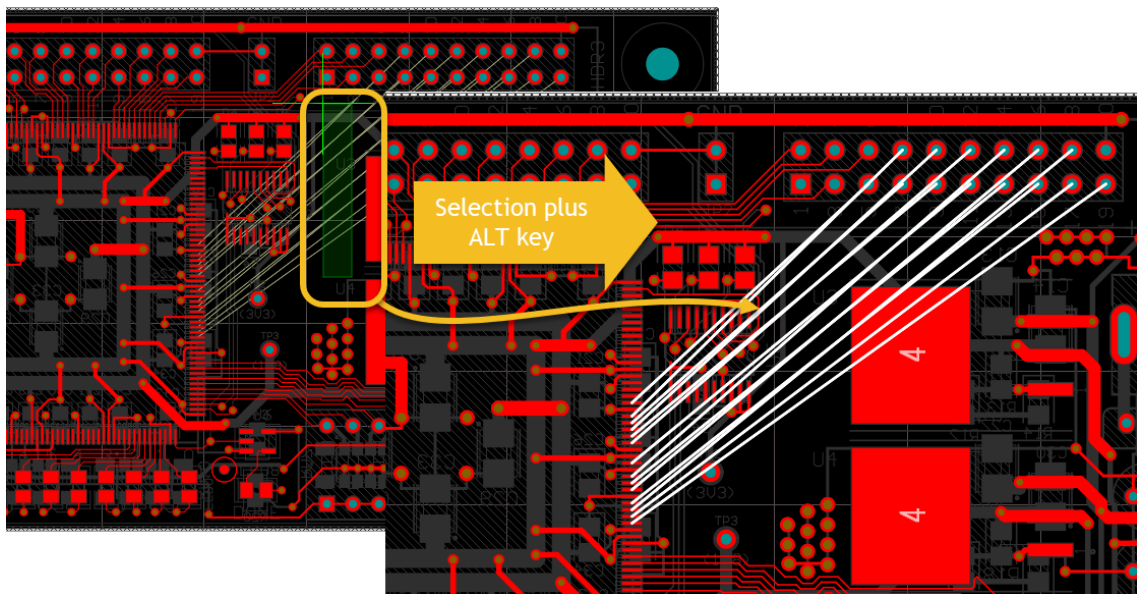

Figure 1. Select connection lines
12. Holding down the **ALT** key, use the left mouse button and sweep from right to left on all connection lines associated with U1, selecting them, as seen in Figure 1.
17. Holding down the **ALT** key, use the left mouse button and sweep from right to left on all connection lines associated with U1 selecting them, as seen in Figure 1.